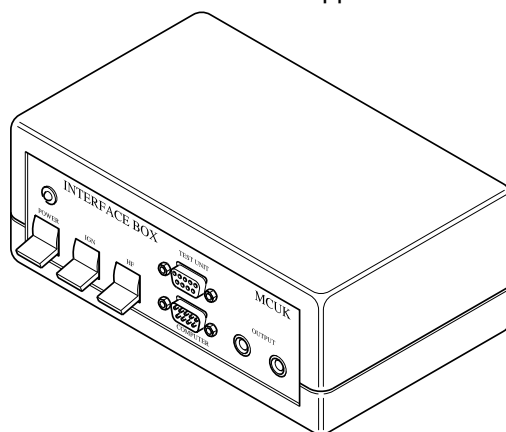

Figure 1: Interface unit I 001
1. Interface Unit part no I 001 (figure 1)